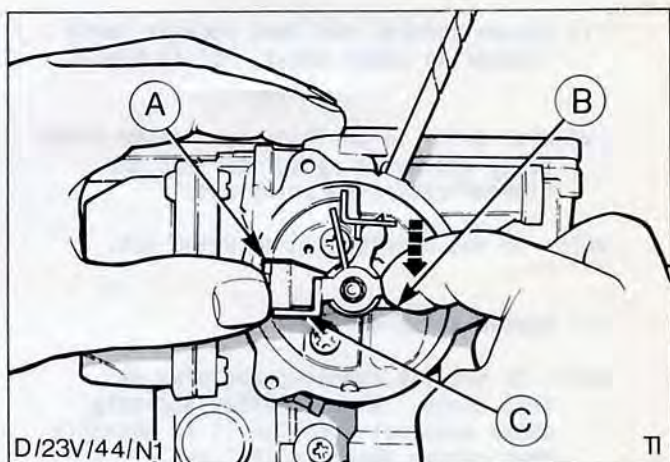

Fig.73. Choke held and correctly adjusted.
- v) To adjust bend pull down lever 'C' in Fig.73, so that it just touches bi-metal lever 'A'.